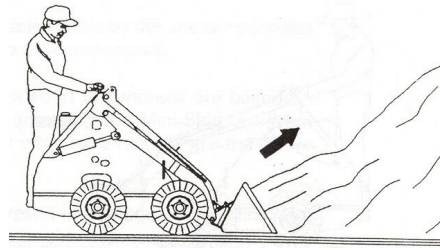

Figure 13
2. When the bucket is full, tilt bucket back and back away from the pile, as shown in Figure 13 and 14.